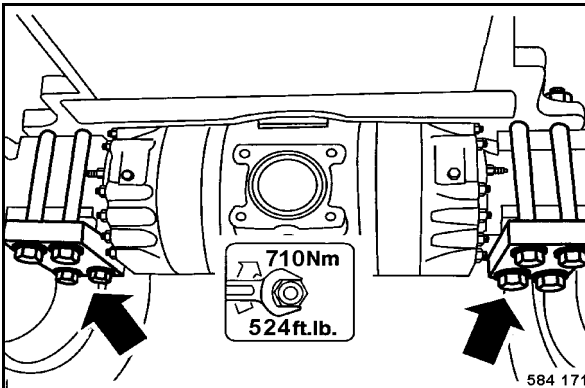

Fig. 177
- Check all fastening nuts on axle mounting bolts (Fig. 177) for tight fit.